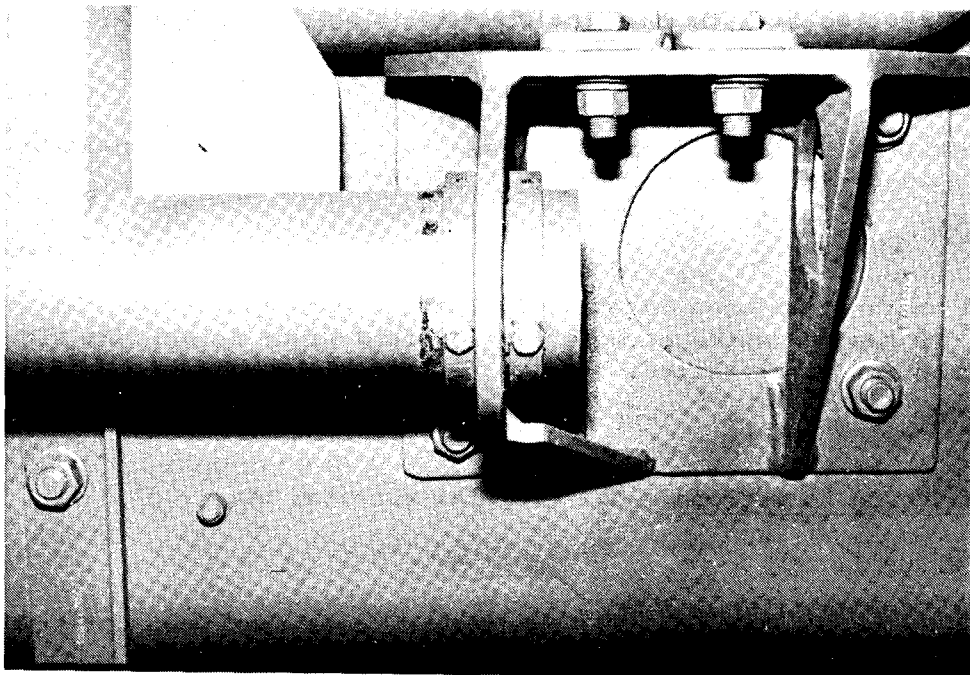

FIG 1 - COMPLETED MODIFICATION
7. To carry out the modification refer to Fig 1 and proceed as follows:
- f. Lock both collars firmly in position using items 1 and 2 from Table 1.